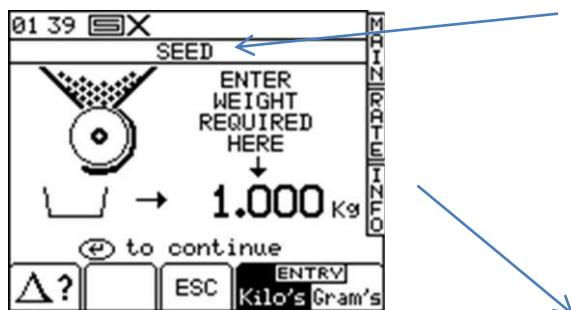

Figure 18. Pre-calibration screen
3. Otherwise, select the desired units then enter the weight required to be metered out (Fig.18) and press ENTER. The metering unit will then operate at the programmed calibration speed to dispense the correct amount of product, then stops. The instrument then displays a weight figure based on the existing programmed product calibration factor.